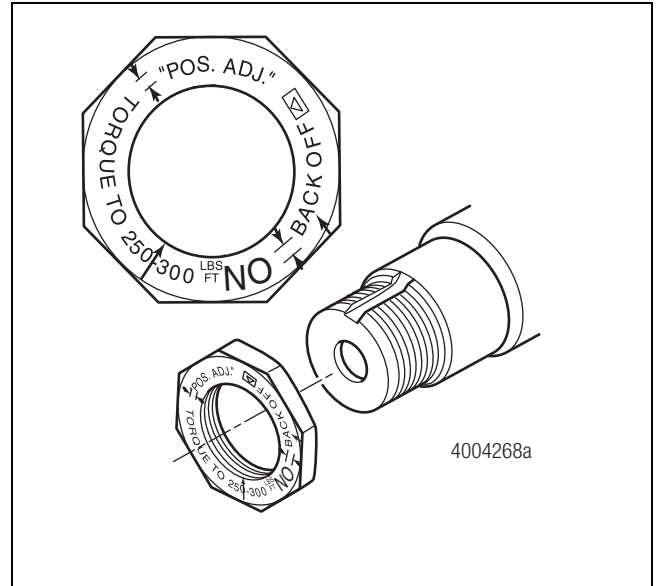

Figure 9.5
- On positive adjust axles, the inner nut of the wheel retention hardware does not have an alignment pin and is marked as shown. Figure 9.5.